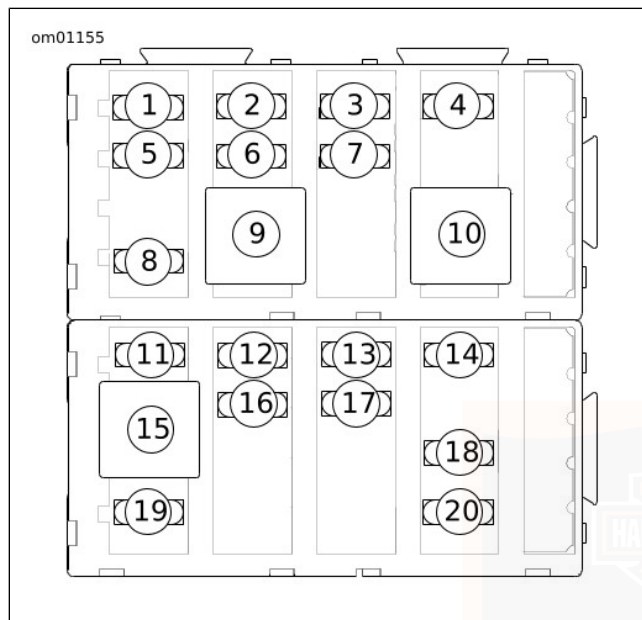

Figure 76. Fuses: Touring Models
4. See Figure 76 and refer to Table 39. Remove fuse and inspect the element.